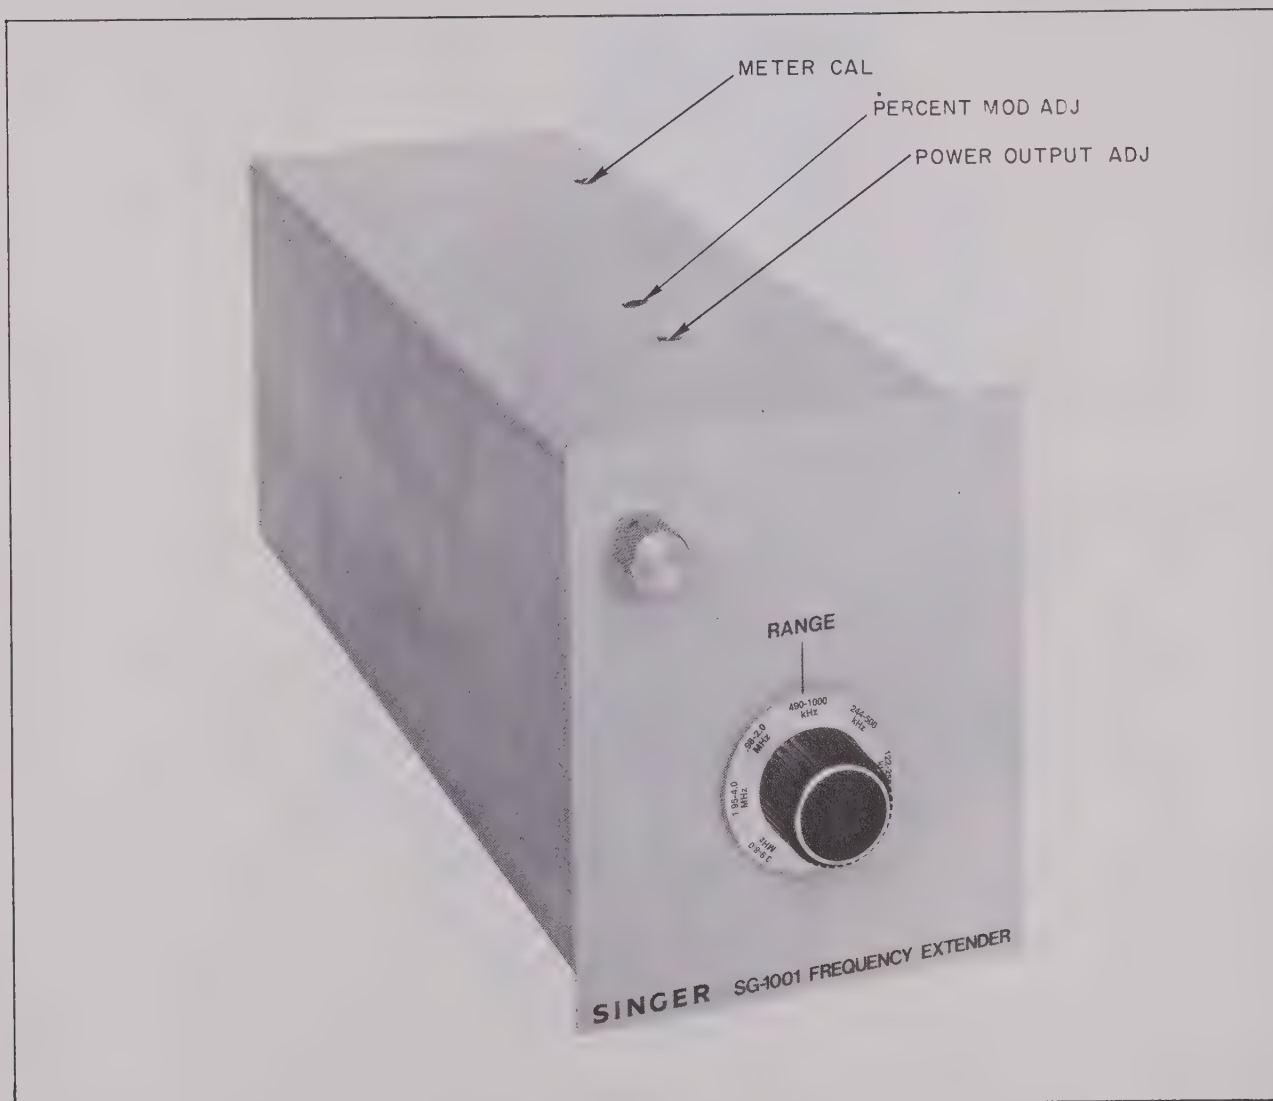

Figure 4-2. Adjustment Locations
4-9. The locations of printed circuit boards and all components of the Extender are illustrated in figures 4-2 through 4-9.
d. On SG-1001 adjust POWER OUTPUT ADJ (figure 4-2) for an output level of +20 dBm.
e. On SG-1001 adjust METER CAL (figure 4-2) for 0 dB on the RF LEVEL meter on the SG-1000.